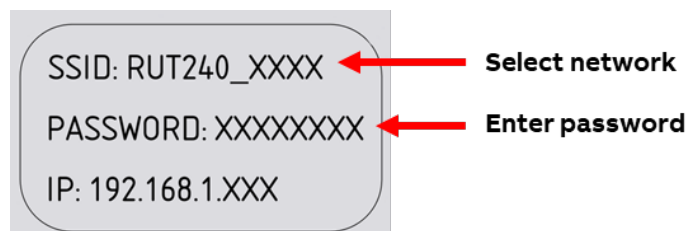

Figure 7 Access WiFi
- 4 From the available network list, select the network (SSID) marked on the analyzer label. It should read: *RUT240_XXXX*, where *XXXX* varies from analyzer to analyzer. Once selected, enter the corresponding password (key) from the same label on the analyzer for access. The password consists of eight characters (XXXXXXXX) that vary from analyzer to analyzer. (Figure 7)
- 3 Enter the network security key: from Figure 7 (or modified security key).
- c. Enter the IP address of the analyzer. (Figure 7) The format of the IP address is 192.168.1.XXX, where XXX consists of three digits that vary from analyzer to analyzer.